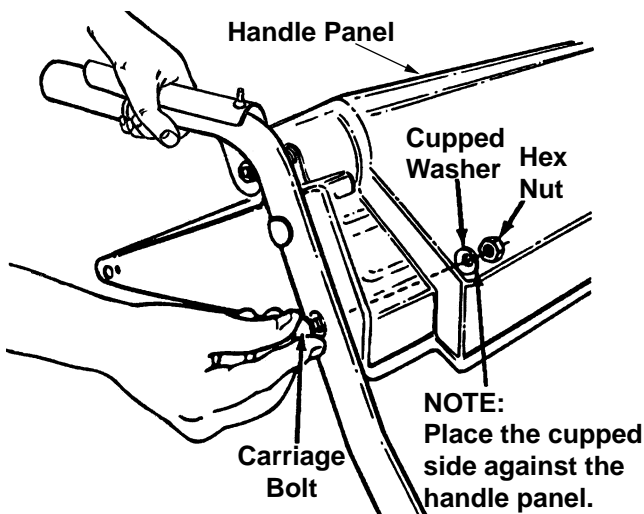

Figure 4
6. Place the handle panel in position between the handles. To hold the handle panel in place, engage both clutch grips (hold them against the handles). Now release the left hand grip, and it will remain against the handle. Keep holding the right hand clutch grip. See figure 4.